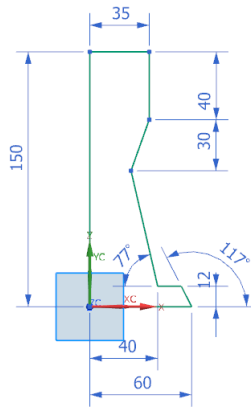

Figure 3-37 The completed sketch displayed after adding required constraints and dimensions
1. Click on the line 6; a dynamic edit box is displayed. Modify the value of the dimension to **40** and press Enter. Next, drag and place the dimension on the right of the sketch, refer to Figure 3-37.
2. Click on the line 8 and then place the dimension on the left of the sketch; an edit box with default value is displayed. Enter **150** in this edit box and press the Enter key; the dimension value is modified, refer to Figure 3-37.
3. Select line 5 and then place the dimension on the right of the sketch. Next, modify the dimension value to **30** and press the Enter key, refer to Figure 3-37.
4. Select line 7 and place the dimension above the sketch. Next, modify the dimension value to **35** and press Enter, refer to Figure 3-37.
5. Select line 2 and then line 1; an angular dimension gets attached to the cursor. Move the cursor outside the sketch towards right and click the left mouse button to place the dimension. Next, modify the dimension value to **117** and press Enter, refer to Figure 3-37.
6. Select lines 3 and 4; an angular dimension is attached to the cursor. Move the cursor inside the sketch and place the dimension. Next, modify the dimension value to **77** and press Enter, refer to Figure 3-37.
8. Select line 2 and place the dimension on the right of the line. Next, modify the dimension value to **12** and press Enter, refer to Figure 3-37. Press the Esc key.
9. Choose the **Fit** tool from the **Operation** group of the **View** tab. The resulting sketch after adding all the dimensions is shown in Figure 3-37.